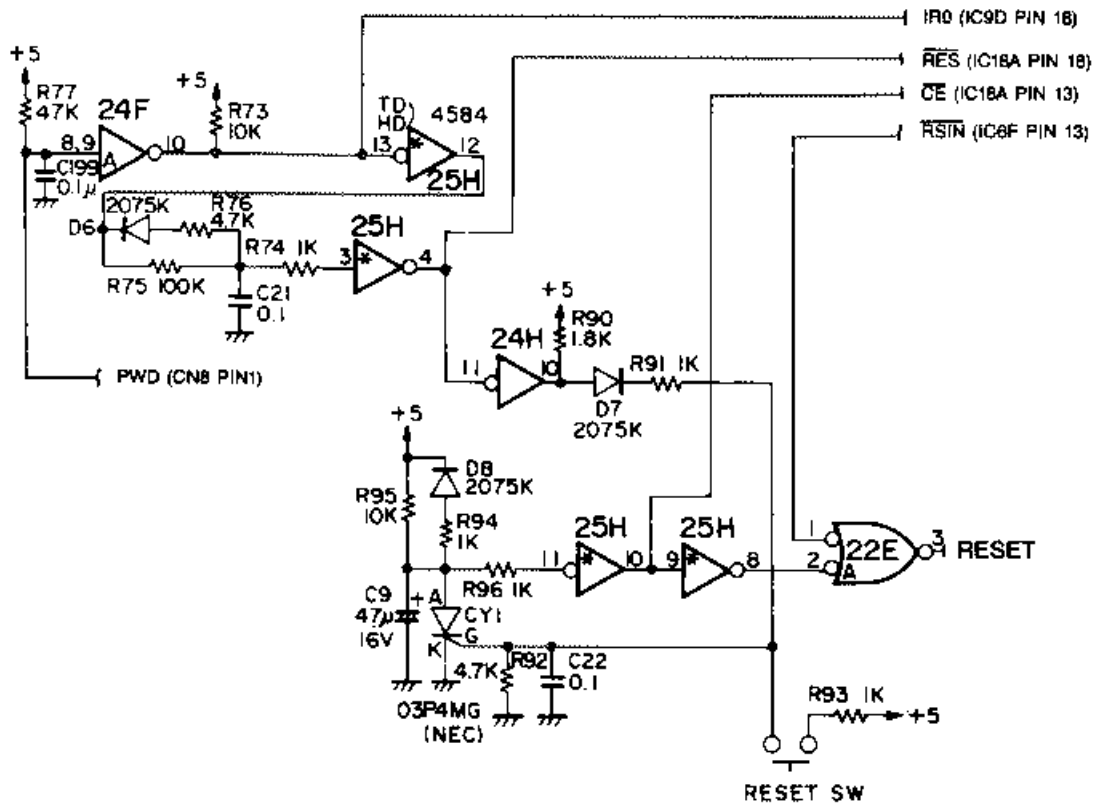

FIGURE 2-16. SYSTEM RESET CIRCUIT
2.3.1.2 System Reset Circuit (Figure 2-16)